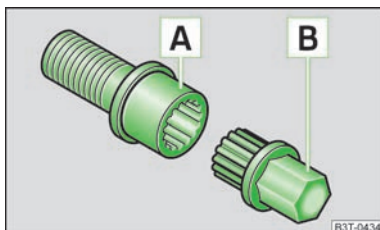

Fig. 161
- Insert the adapter  with its toothed side fully into the inner tooting of the safety wheel bolt  until the stop so that only the outer hexagon is jutting out » Fig. 161.